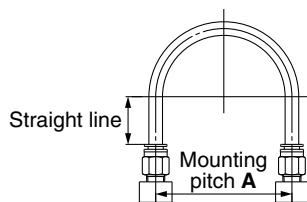
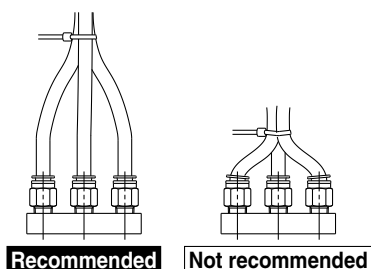

Fig. 1 Recommended piping
Fig. 2 When using a tying band to bind the piping together
When connecting piping, use a tube of sufficient length, in accordance with the recommended piping conditions described in Fig. 1 on page 14. When binding the piping together with a tying band, etc., be sure that external force is not being applied to the piping. (Refer to Fig. 2 on page 14.)
1. When connecting piping to the One-touch fitting, use a pipe length with sufficient margin, in accordance with the piping conditions shown in Fig. 1.
Also, when using a tying band, etc., to bind the piping together, make sure that external force does not come to bear on the fitting. (See Fig. 2.)